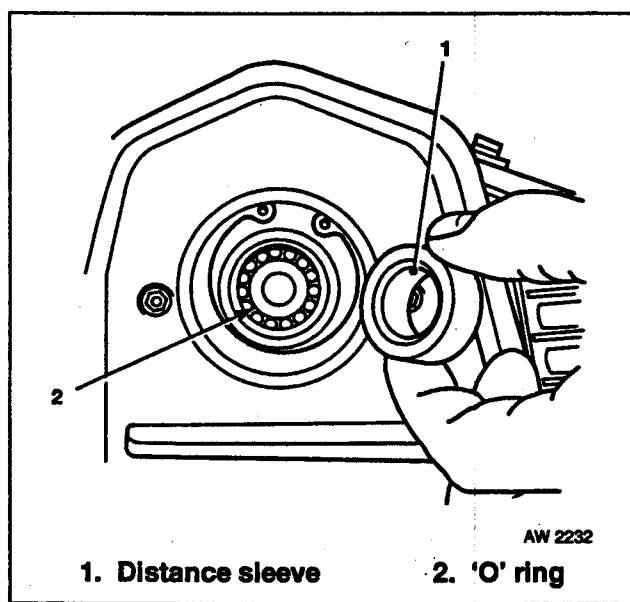

Fig 2.19 Camshaft Distance Sleeve Installation
- c. Insert camshaft and install roller bearing with appropriate sized drift (or socket), slide 'O' ring on to camshaft, fit shim, press in new seal and secure with lock ring. Install distance sleeve, Fig 2.19 refers, with chamfered edge towards bearing.
- e. Ensure clean surfaces (no cylinder head gasket fitted) and dowels (2) in position – lightly grease and correctly position 'O' rings (3) – refit the cylinder head.